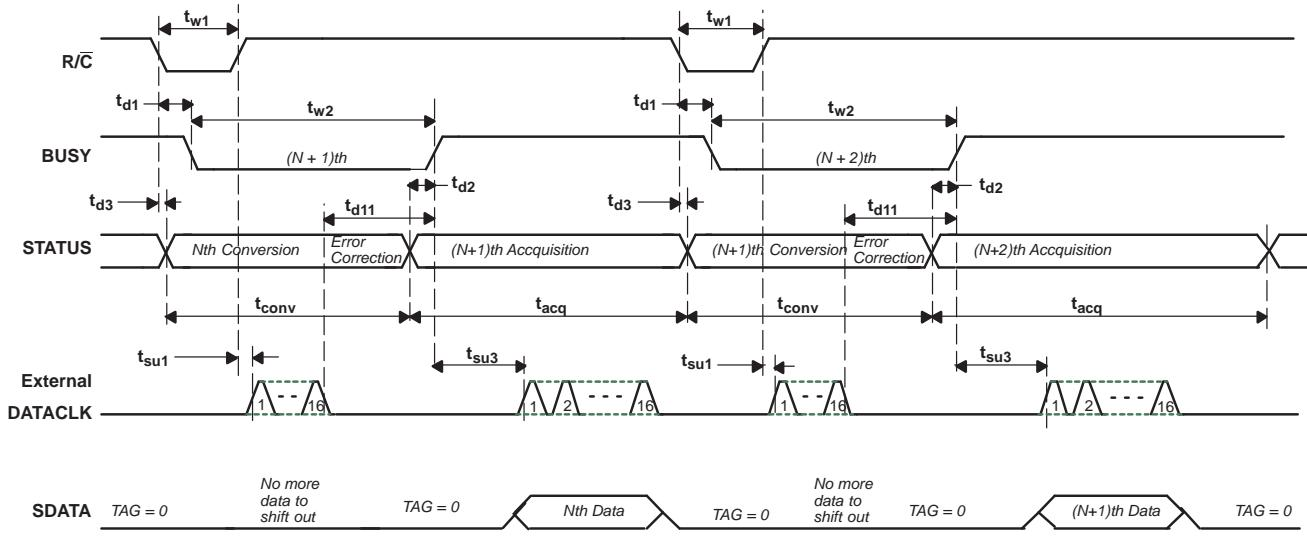
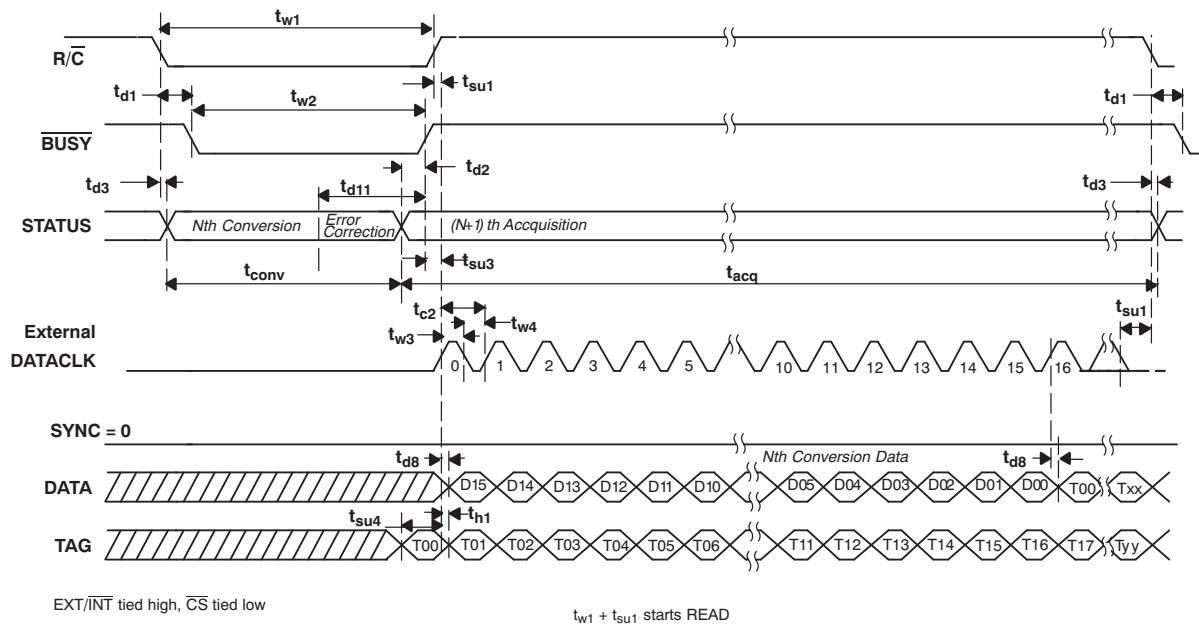
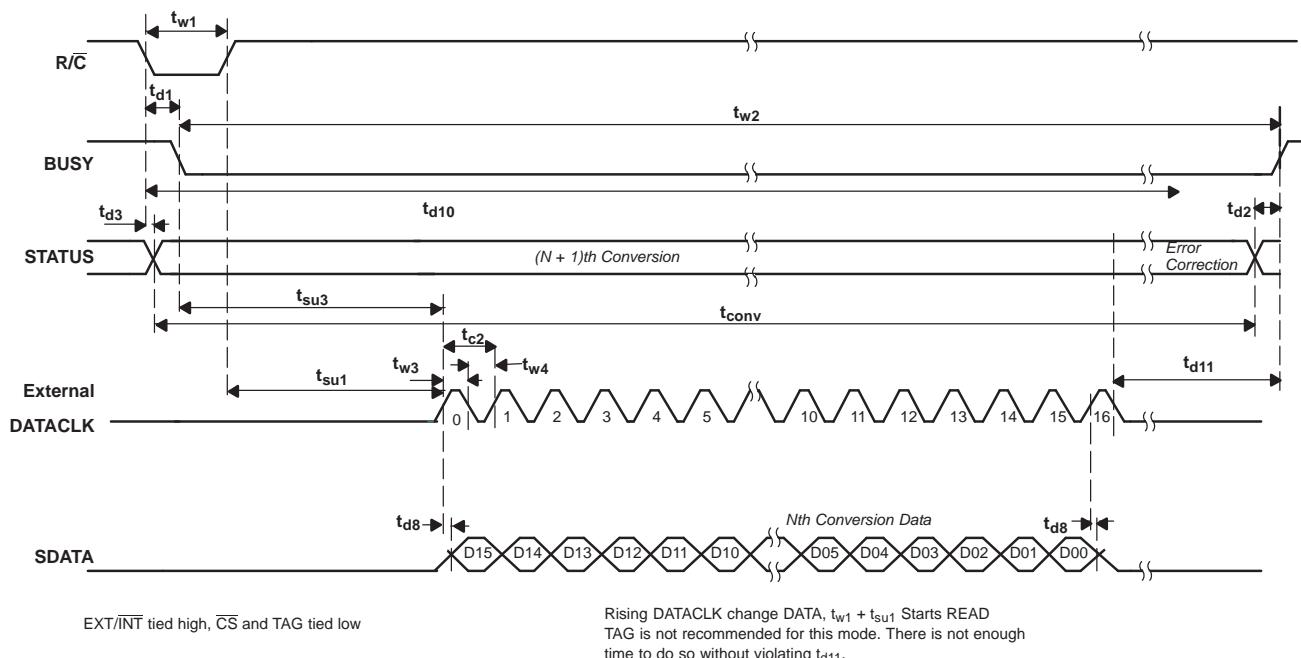

Figure 34. Basic Conversion Timing: External DATACLK
Figure 35. Read After Conversion (Discontinuous External DATACLK)
Figure 36. Read During Conversion (Discontinuous External DATACLK)
(1) See Figure 34, Figure 35, and Figure 36 for constraints on data valid from conversion *N*–1.
After conversion N is completed and the output registers have been updated, \overline{BUSY} (pin 24) goes high. With \overline{CS} low and R/\overline{C} high, valid data from conversion N are output on SDATA (pin 19) synchronized to the external data clock input on DATACLK (pin 18). The MSB is valid on the first falling edge and the second rising edge of the external data clock. The LSB is valid on the 16th falling edge and 17th rising edge of the data clock. TAG (pin 20) inputs a bit of data for every external clock pulse. The first bit input on TAG is valid on SDATA on the 17th falling edge and the 18th rising edge of DATACLK; the second input bit is valid on the 18th falling edge and the 19th rising edge, etc. With a continuous data clock, TAG data is output on SDATA until the internal output registers are updated with the results from the next conversion. Refer to Table 6 and Figure 35 for more information.
The switching noise of the asynchronous data clock can cause digital feedthrough, degrading converter performance. Refer to Table 6 and Figure 36 for more information.
A falling-edge-triggered transfer would initiate an SPI transfer after the falling edge of BUSY, providing the host controller with the previous conversion results, while the current conversion cycle is underway. The timing for this type of interface is described in detail in Figure 36. Care must be taken to ensure the entire 16-bit conversion result is retrieved from the ADS8517 before BUSY returns high to avoid the potential corruption of the current conversion cycle.
A rising-edge-triggered transfer is the preferred method of obtaining the conversion results. This timing is depicted in Figure 35. This method of obtaining data ensures that SCLK is static during the conversion cycle and provides the host processor with current cycle conversion results.